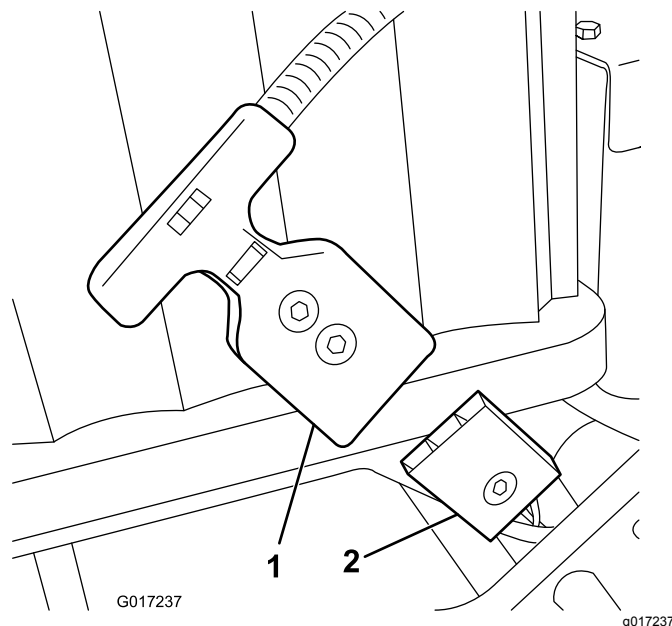

Figure 16
and then install the battery pack. Remove the main power supply connector (Figure 16) from the battery base. Install the connector to the battery as described. Install the battery to the base, threading the attached wire harness through the appropriate hole, and then secure the main power supply connector to the battery base with the fasteners that you previously removed.
16. Connect the T-handle connector from the main wire harness to the main power supply connector on the battery base (Figure 16).